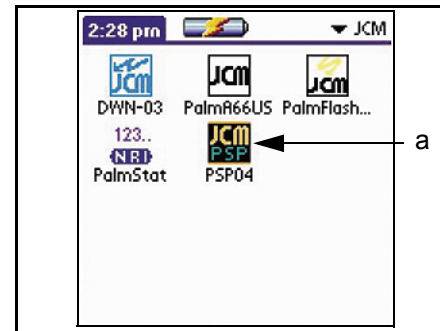
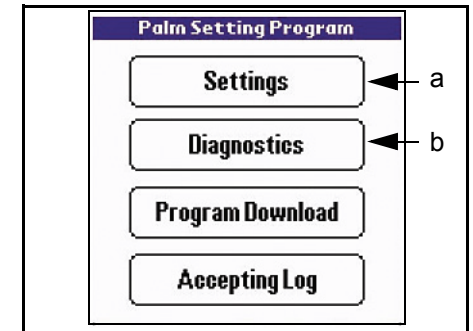

Figure 5 Palm Aps Main Menu
Figure 6 PSP04 Main Menu Screen
2. Run the PSP-04 program by Clicking on the PSP04 Icon (See Figure 5 a). The PSP-04 Main Menu Screen will appear (See Figure 6 a).
8. Select the 'Diagnostics' Screen Button (review Figure 6 b).